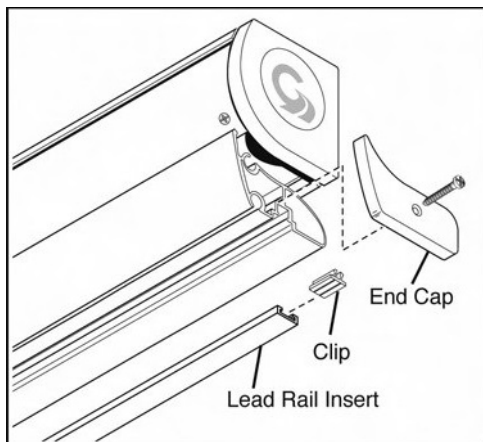

Fig.1
2. Remove the lead rail endcaps. (Held in place by 1 Philips screw Fig.1)